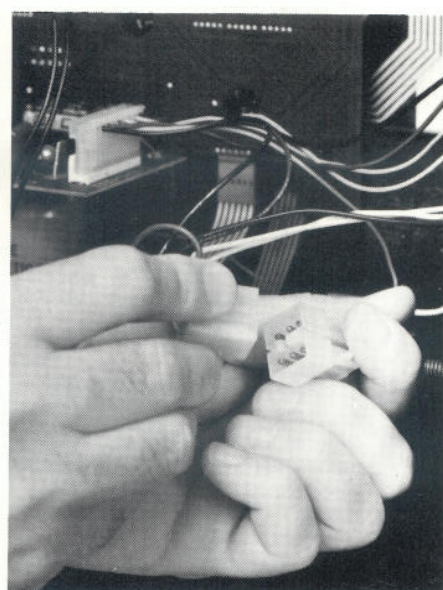

Figure 5. Connecting coin door plug to main harness.
- e) Connect coin door harness to main harness at lower right corner of upper half of game (see Figure 5).